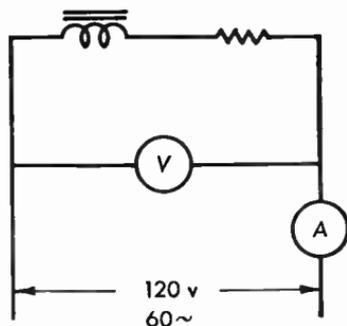

Fig. 12.08 Circuit for measuring inductance with a voltmeter and an ammeter.
12.08 The filter choke in Figure 12.08 has a resistance of 450 ohms. The voltmeter across the 60-cycle line reads 120 volts, the ammeter 21.5 milliamperes. What is the approximate inductance of the choke and its power factor?